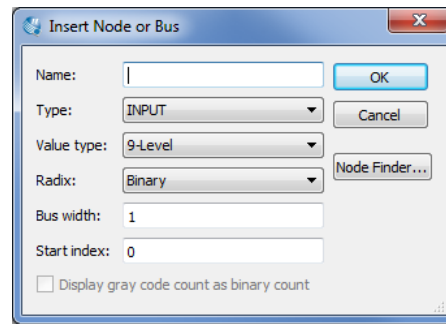
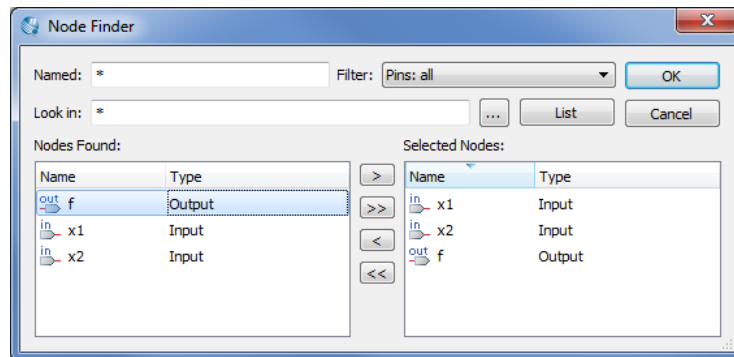
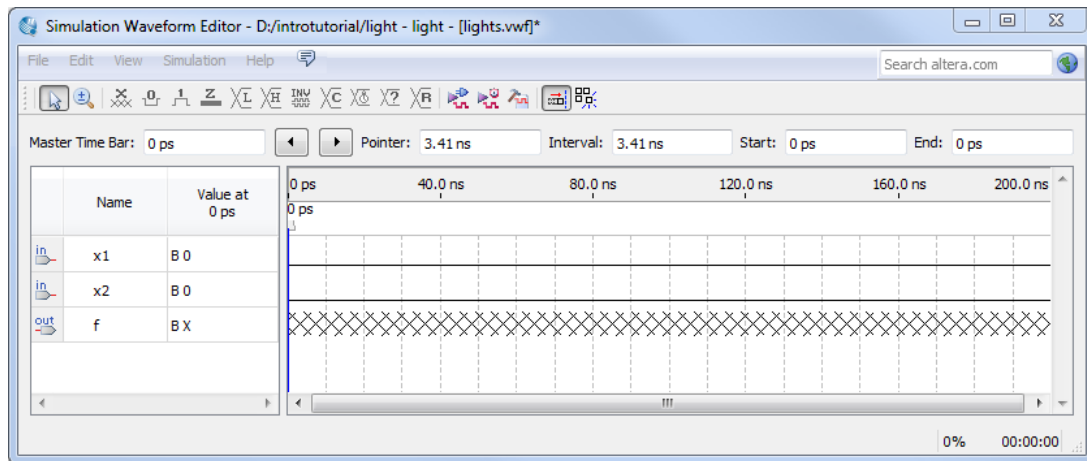

Figure 30. The Insert Node or Bus dialogue.
Figure 31. Selecting nodes to insert into the Waveform Editor.
Figure 32. The nodes needed for simulation.
3. Next, we want to include the input and output nodes of the circuit to be simulated. Click **Edit > Insert > Insert Node or Bus** to open the window in Figure 30. It is possible to type the name of a signal (pin) into the Name box, or use the Node Finder to search your project for the signals. Click on the button labeled **Node Finder** to open the window in Figure 31. The Node Finder utility has a filter used to indicate what type of nodes are to be found. Since we are interested in input and output pins, set the filter to **Pins: all**. Click the **List** button to find the input and output nodes as indicated on the left side of the figure.
Click on the *x1* signal in the Nodes Found box in Figure 31, and then click the > sign to add it to the Selected Nodes box on the right side of the figure. Do the same for *x2* and *f*. Click OK to close the Node Finder window, and then click OK in the window of Figure 30. This leaves a fully displayed Waveform Editor window, as shown in Figure 32. If you did not select the nodes in the same order as displayed in Figure 32, it is possible to rearrange them. To move a waveform up or down in the Waveform Editor window, click within the node's row (i.e. on its name, icon, or value) and drag it up or down in the Waveform Editor.